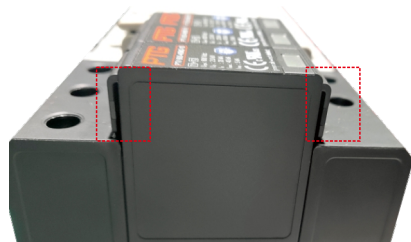

Figure 7.6
5. Press and hold the spring clip on the upper and lower sides of the damaged surge protection module and remove it.(See Figure 7.6)